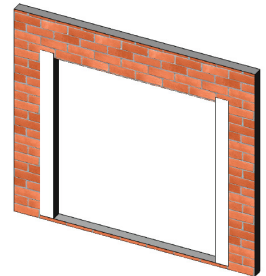

Figure 18:
2. At each jamb, embed the flashing paper into the sealant onto mounting flange and fasten into place. The flashing paper should be cut sufficiently long enough to extend at least 3 in. past the weep-screed or diado flashing and at least 6 inches above the head of the window (Figure 18).